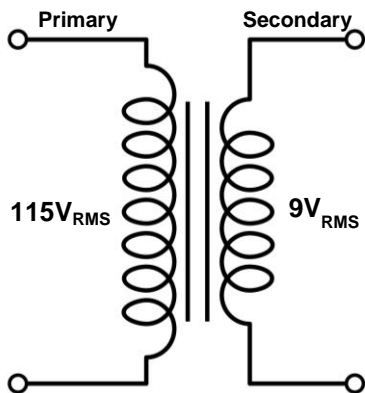

Figure 1 – Step Down Transformer
**Figure 1** shows the circuit schematic for a basic step down transformer. On the left terminals, it can take as input a  $115V_{RMS}$  sinusoid. It will then “step down” the voltage to a  $9V_{RMS}$  sinusoid. It is simple to see that this transformer has a step down voltage ratio of (115:9) or 12.78:1. The ratio for a transformer is set by having the same ratio for the number of turns of wire in the primary coil to the number of turns or wire in the secondary coil. As an example, if one wrapped the first coil with 10,000 turns of wire, the secondary coil would then need to have 782.65 turns of wire to achieve the 12.78:1 ratio.